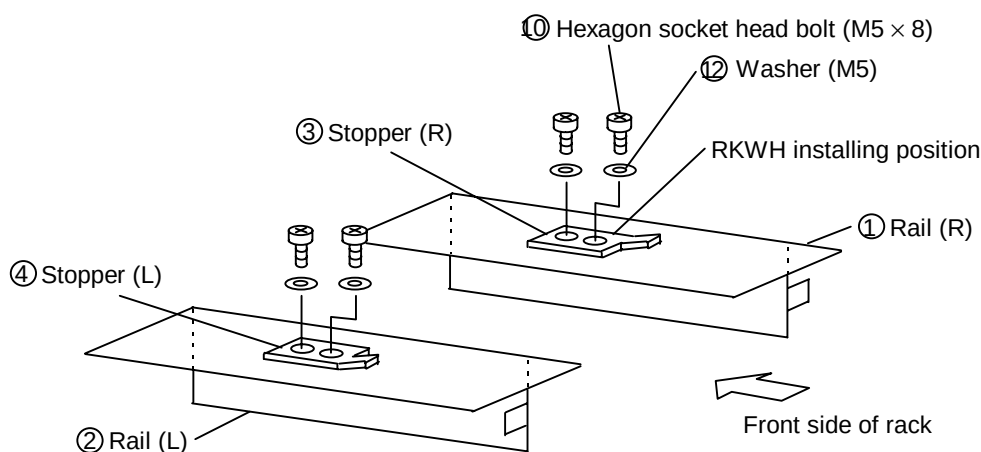

Figure 1.4.3 Temporary Attachment of the Stopper
1.4.3 Installing the rails (See Figure 1.4.3 and 1.4.4.)
- (1) Temporarily secure the ③ Stopper (R) to the ① Rail (R) using ⑩ Hexagon socket head bolts (M5 × 8) and ⑫ Washer (M5) (at two places). (See Figure 1.4.3.)